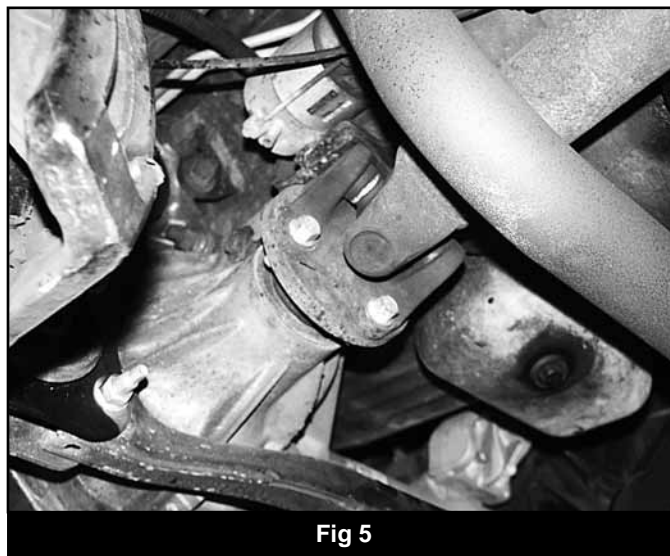

Fig 5
22. Make indexing marks on the front drive shaft and differential input flange for realignment later (Fig 5). Remove the four bolts and disconnect the drive shaft from the differential. Discard mounting bolts.